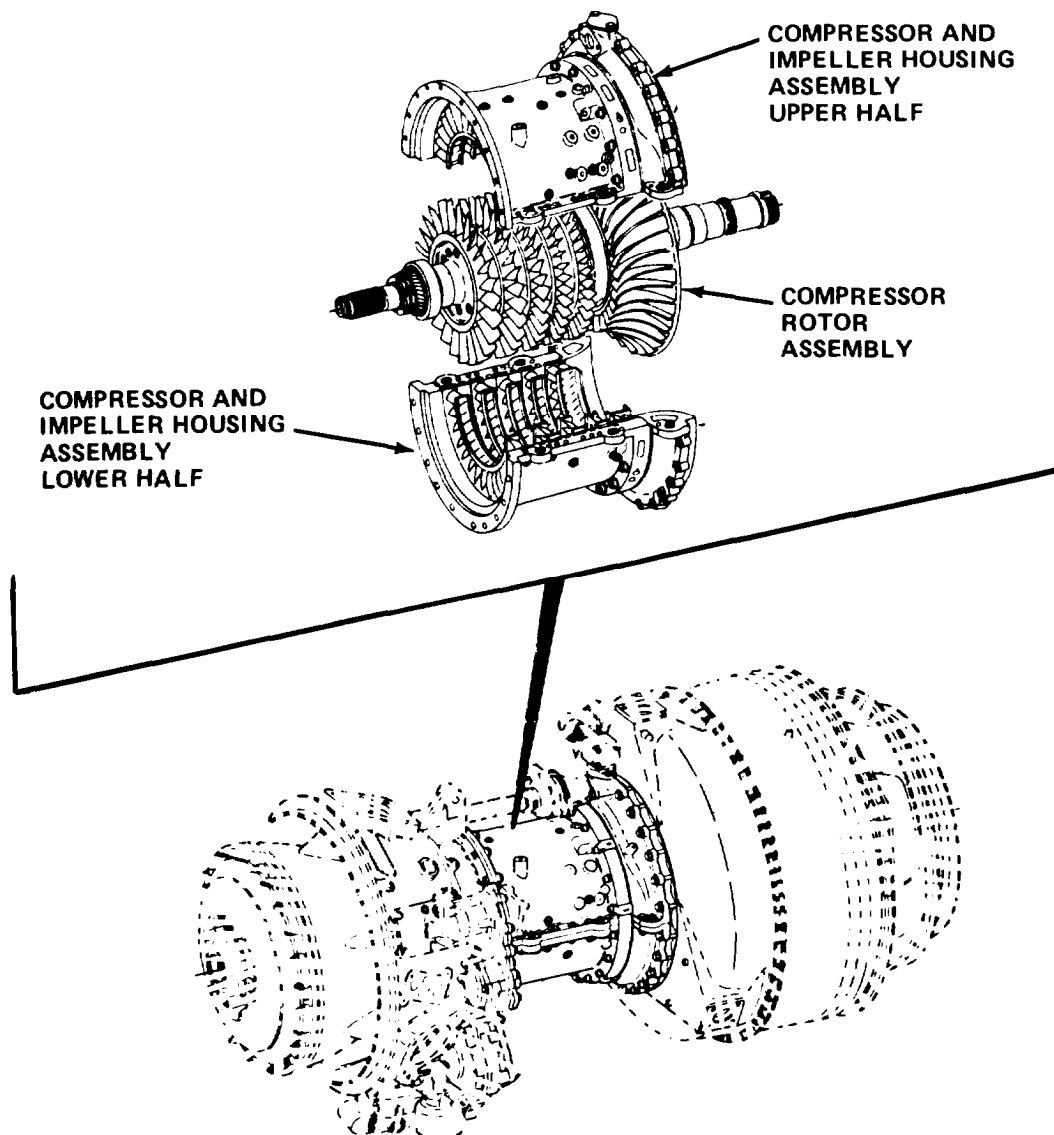

Figure 1-7. Compressor Section (T53-L-11 Series Engines)
**1-11. Compressor Section (T53-L-II Sries Engine) (See figure 1-7.)**
- Compressor rotor disk assemblies (5)
- Spacers (5)